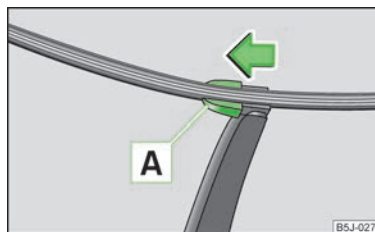

Fig. 32
- Fold the windscreen wiper arm away from the windscreen and position the wiper blade at a right angle to the wiper arm » Fig. 32.
- Position the wiper blade onto the wiper arm and lock the locking button **A** » Fig. 32.